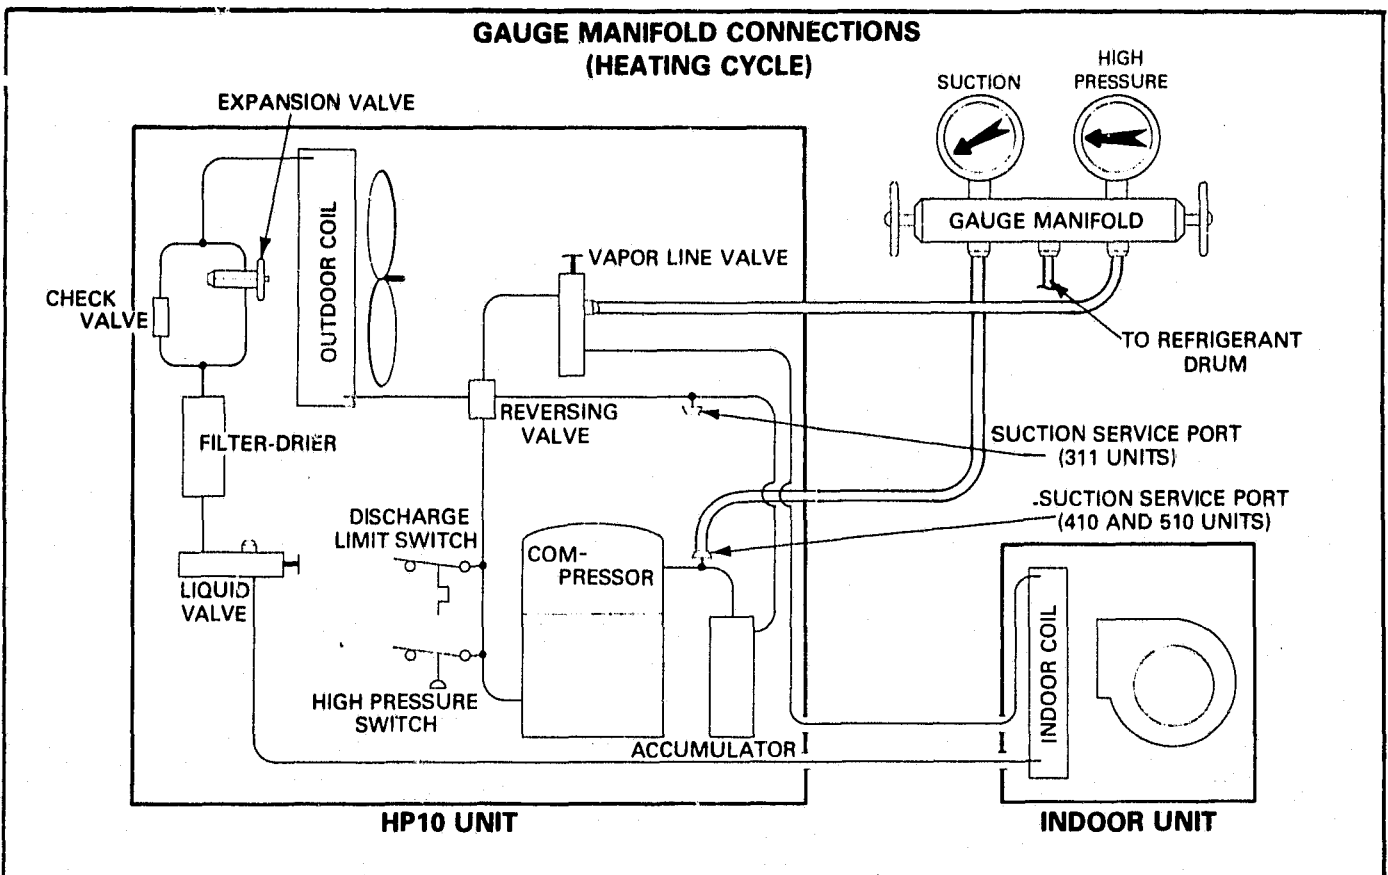

FIGURE 2
- 3 - Heating Cycle, Checking Charge or Charging - Connect high pressure side of gauge manifold to gauge port on vapor line service valve. Connect suction side of gauge manifold to compressor suction service port. Refer to Figure 2.